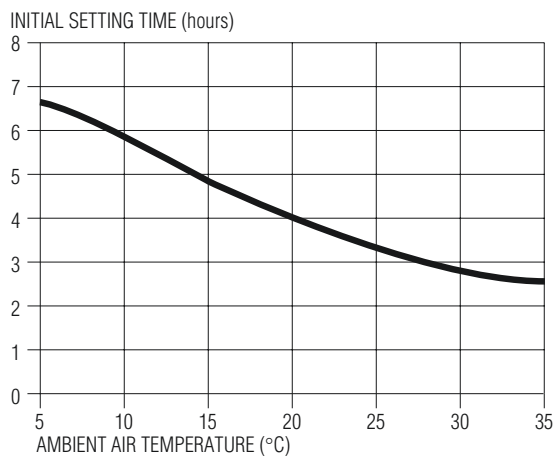

Figure 2: Influence of air temperature on setting times of concrete made with Type GP cement
- **Setting time** As the concrete temperature increases, the setting time, and thus the time to place, compact and finish the concrete is reduced **Figure 2**.